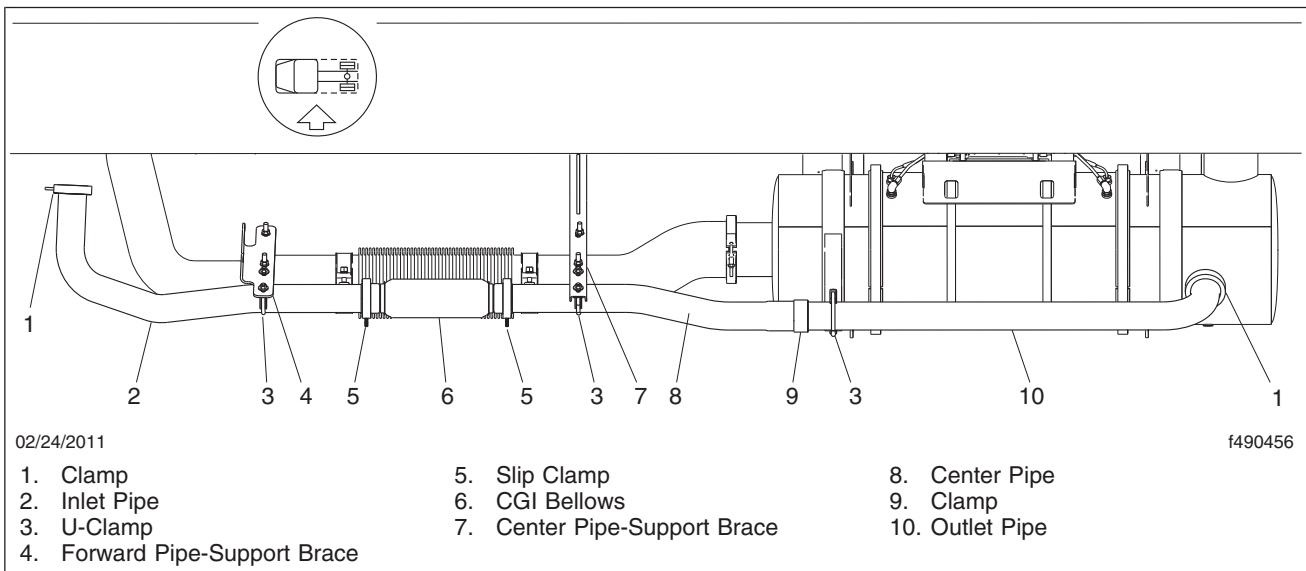

Fig. 5, CAT EPA07 Exhaust Installation with CGI Bellows
3. On vehicles with CAT engines, inspect the CGI bellows and piping for evidence of damage or leakage. See **Fig. 5**. If the bellows is damaged or leaking, replace it. See **49-02** for the replacement procedure.
See Fig. 5.